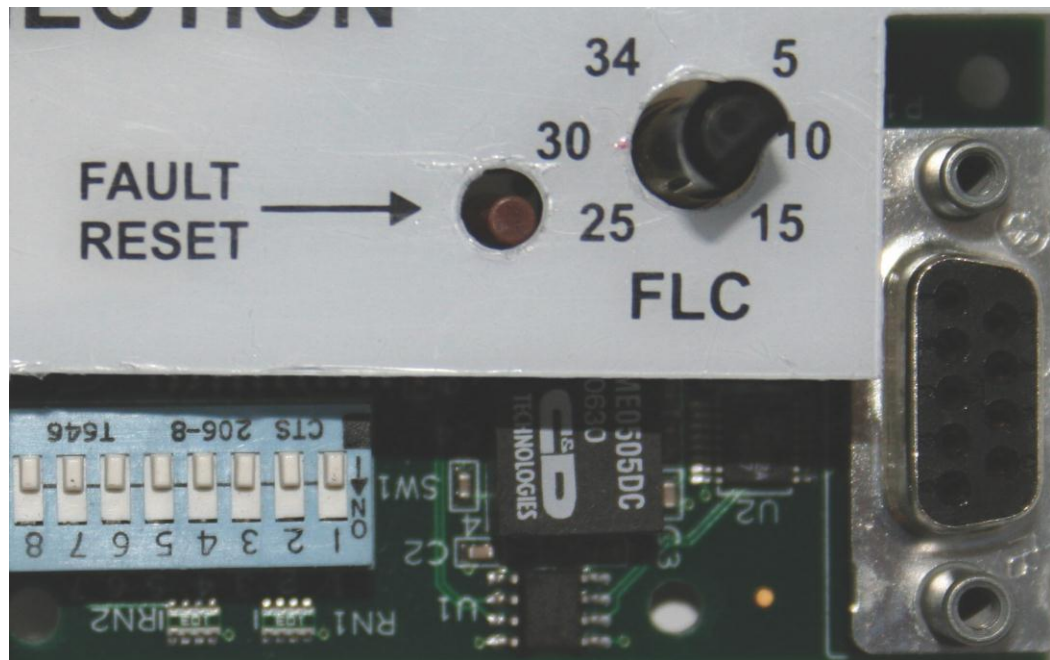

Figure 6 – Dip Switches
- See Figure 6 for a picture of the location and numbering of these DIP switches.
- In order for this functionality to work correctly, the FLC pot, shown in Figure 6, must be set to the correct motor nameplate Full Load Amp (FLA).